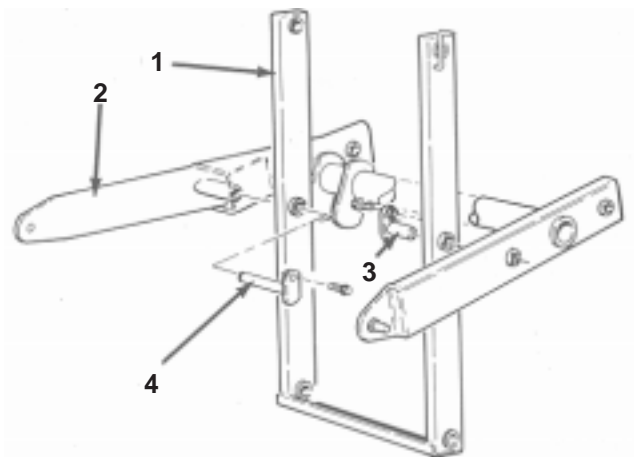

Figure 12
16. Install short and long welded mounting pins through arm assembly and main lift arm assembly (Fig. 12). Secure with 1/4–20 x 3/4" Ig. self tapping screws.